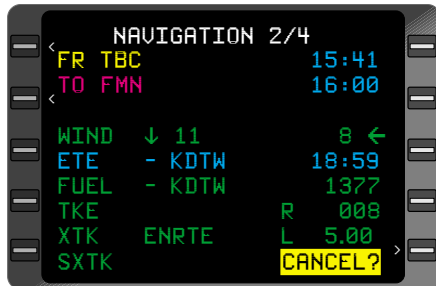

Figure 3-183
3. **BACK** Key - DEPRESS. The cursor field will display **CANCEL?** to inform the pilot of the pending change. (Figure 3-183).